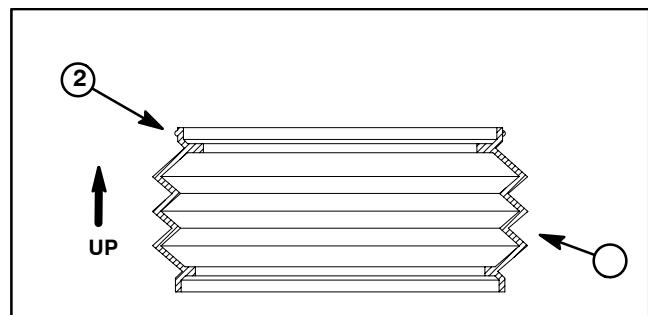
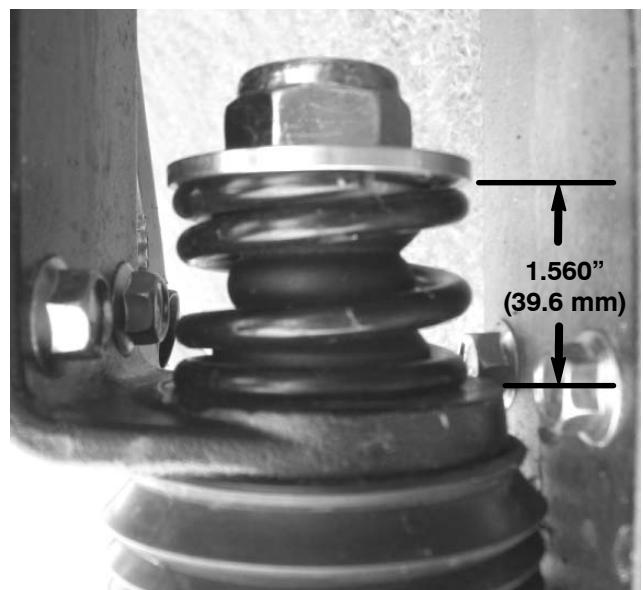

Figure 42
Figure 43
1. If pivot bracket (item 11) was removed from machine, lightly lubricate bushings (item 12) with motor oil before assembly. Connect boom actuator (not shown) to pivot bracket (see Boom Actuator Installation (Machines with Serial Numbers Above 260000000) in this section).
2. Make sure that hinges (item 1) are securely fastened to pivot bracket (item 11) and boom (item 5). The boom hinge uses four (4) backing plates between the boom and flange nuts.
3. Position boom hinge to pivot bracket hinge. Make sure that rubber boots (item 2) are placed at hinge junctions and that rib on boots are toward the top of the boom (Fig. 42).
4. Insert two (2) cap screws (item 9) through flat washers (item 10) and hinges. Place tube (item 17), break-away spring (item 19), spring retainer (item 18) and lock nut (item 8) on each cap screw. Make sure that shoulder on spring retainer fits into breakaway spring.
5. Tighten lock nuts so there is 1.560" (39.6 mm) between the face of the spring retainer and the hinge casting (Fig. 43).